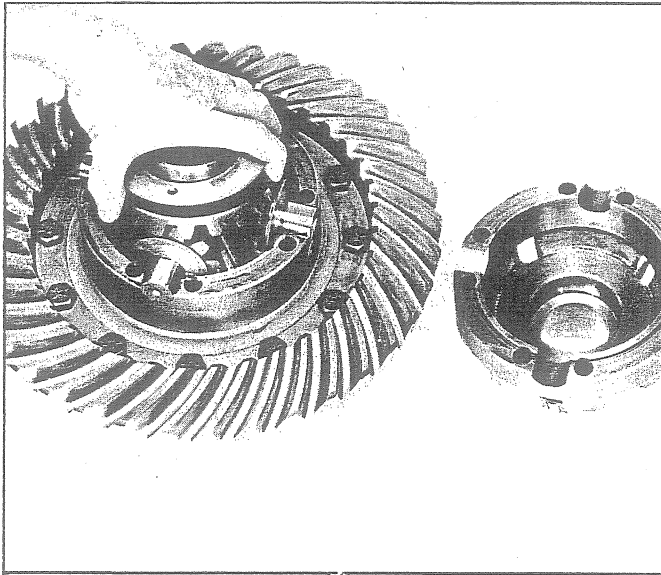

Fig. 62 - Reassembling the Differential
12. Assemble side gears, spider, pinions and thrust washers in place as shown in Fig. 62.